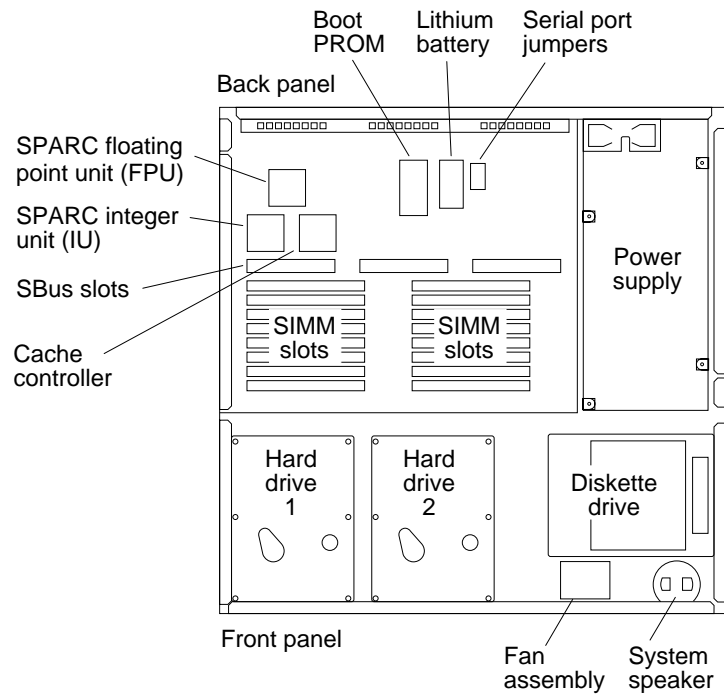

Figure 1-2 Top View of the System With the Cover Removed
- Figure 1-2 presents the top view of the system with the cover removed.
Figure 1-2 shows the top view of the system with the cover removed.
There are three SBus slots on the main logic board (see Figures 1-2 and 1-3). SBus boards such as frame buffer board, a GX graphics accelerator board, or a second ethernet board are installed in the SBus slots.